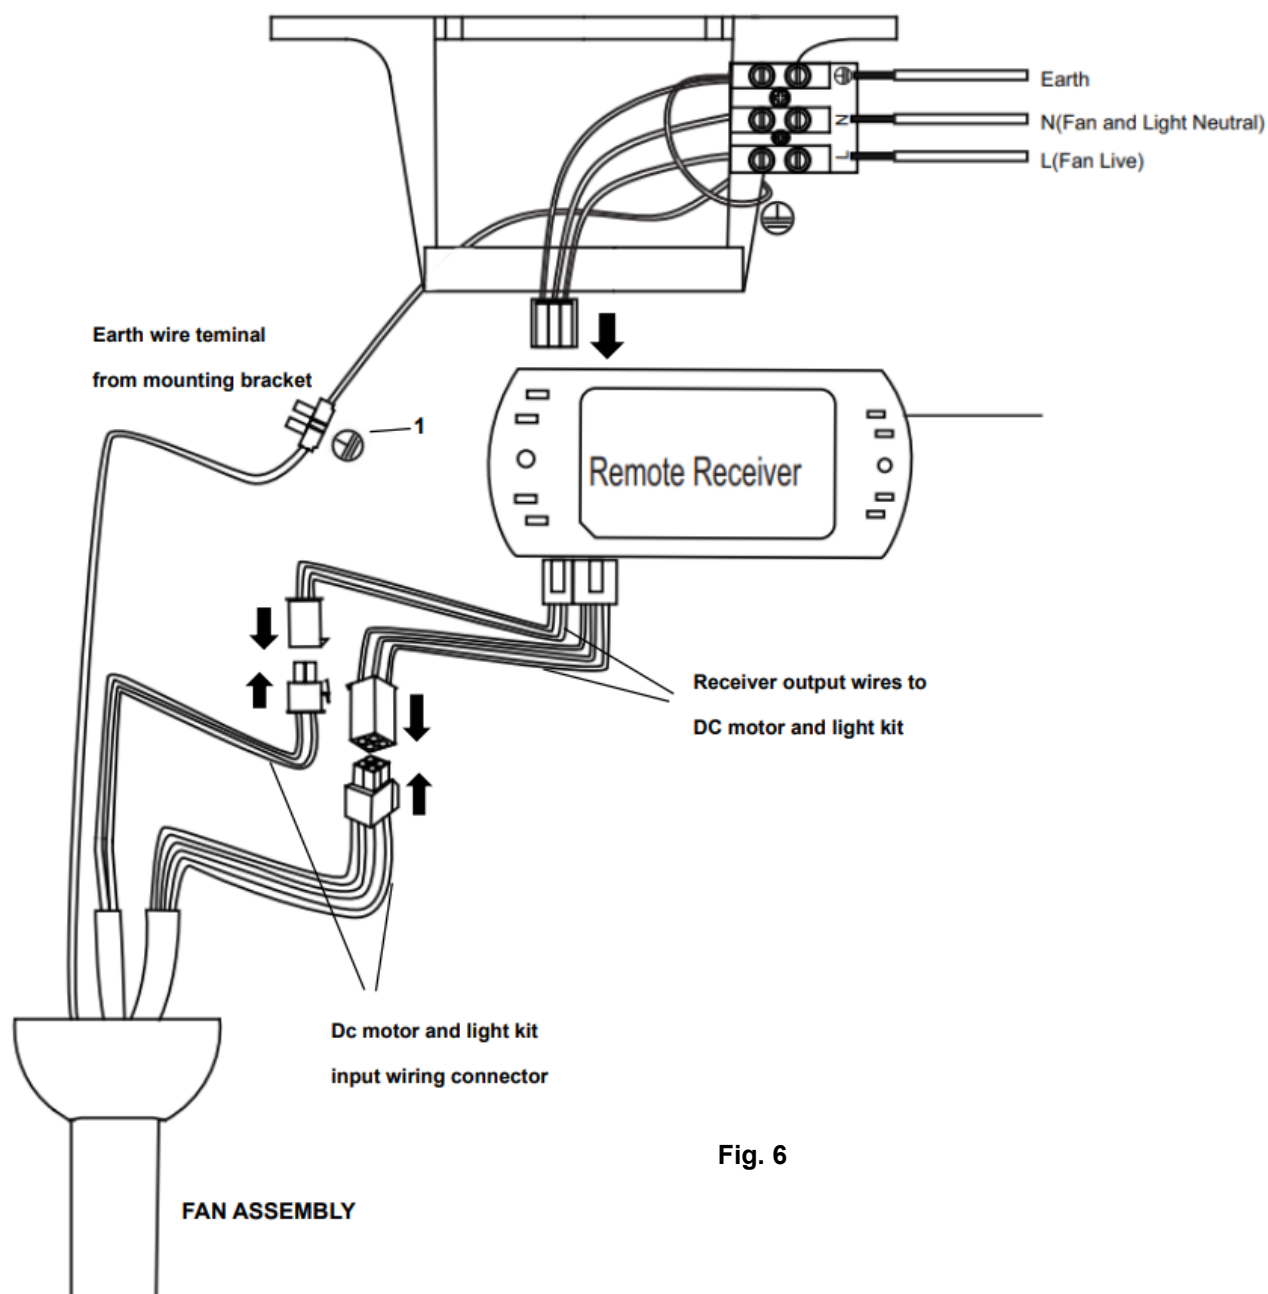

Fig. 6
**ELECTRICAL WIRING DIAGRAM THE FAN****PREPARE AND COMPLETE THE ELECTRICAL WIRING --- WIRING DIAGRAM (FIG. 6)**
NOTE: Ensure the motor earth wire is connected to the single earthing terminal block "1" in the diagram below (Fig. 6).
From mains supply to mounting bracket terminal block: (Fig. 6)
From mounting bracket to receiver and motor: (Fig. 6)